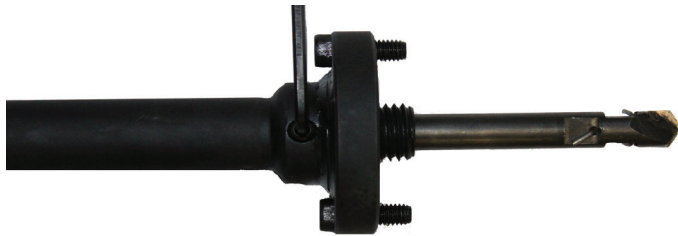

Figure 6
2.3.9) Once aligned, insert and tighten the set screw. Test pull the pilot drill to ensure the set screw is properly locked in place against the pilot drill ledge. Check the coupon retaining clips so they move freely (see Figure 6).